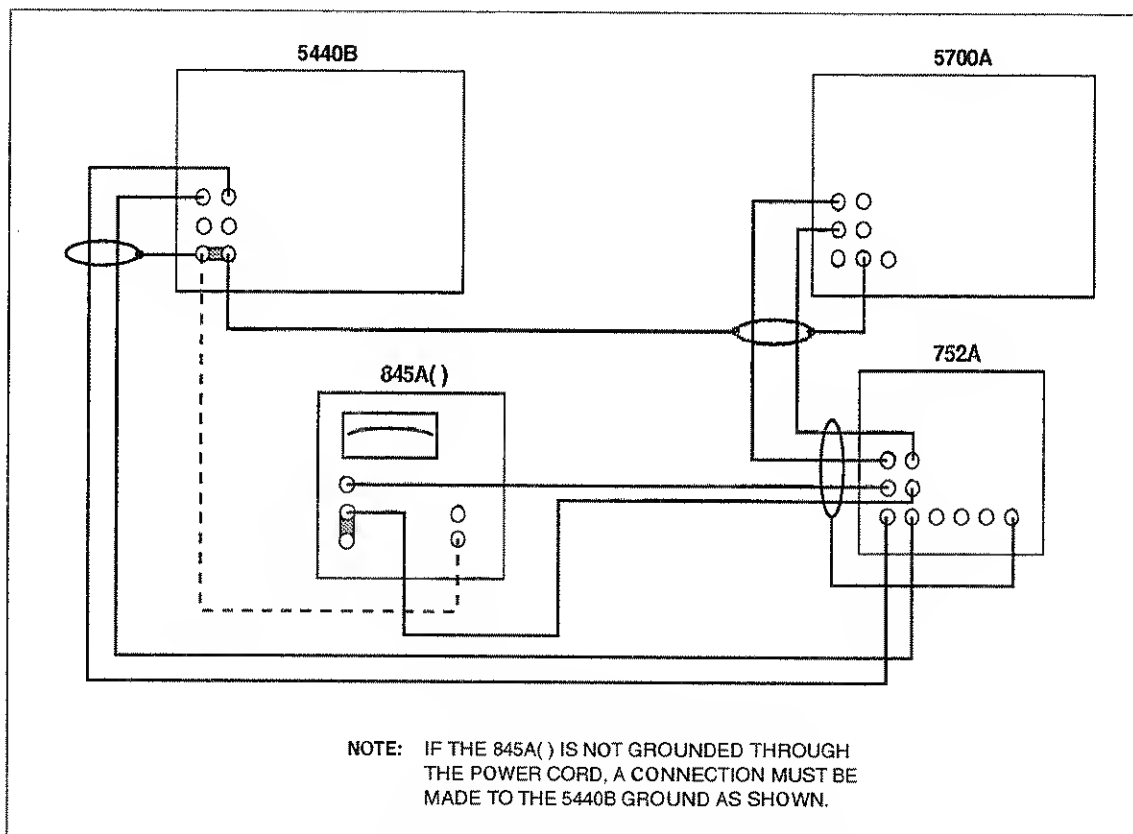

Figure 3-4. DC Source Characterization Setup, Part 3
19. Disconnect the 720A and 5440B from the 752A. Make the connections shown in Figure 3-4.